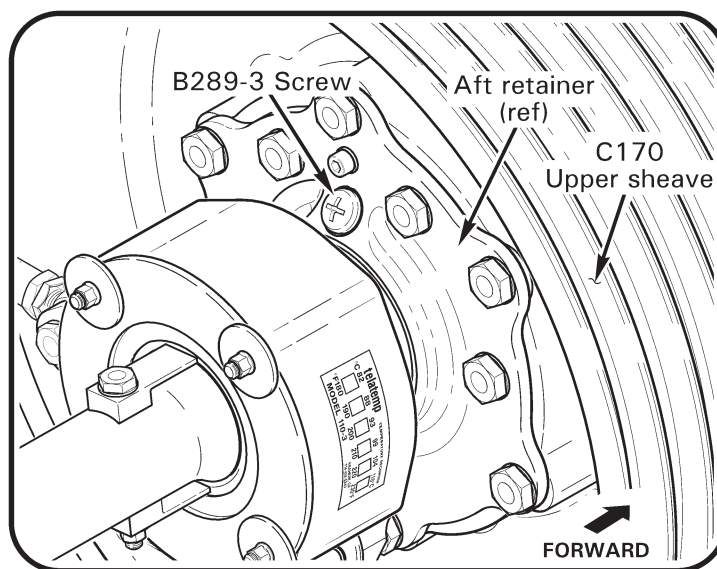

Figure 1: B289-3 Screw Location in C168-5 Retainer
3. Refer to Figure 1. Rotate upper sheave by hand to locate B289-3 screw in both forward and aft retainers. If either screw is not present, then clutch assembly must be removed from service.